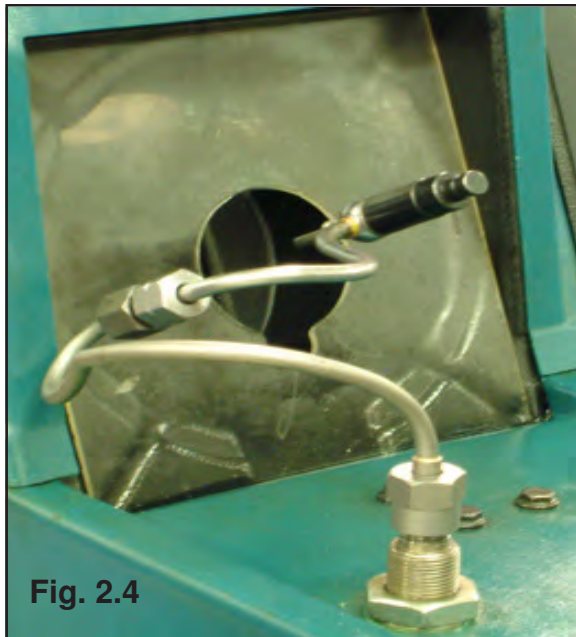

Fig. 2.4
1. Using the 38605 CPN Calibration Line, connect the CPN to the nozzle tester with the CPN tip angled downward (Figure 2.4).